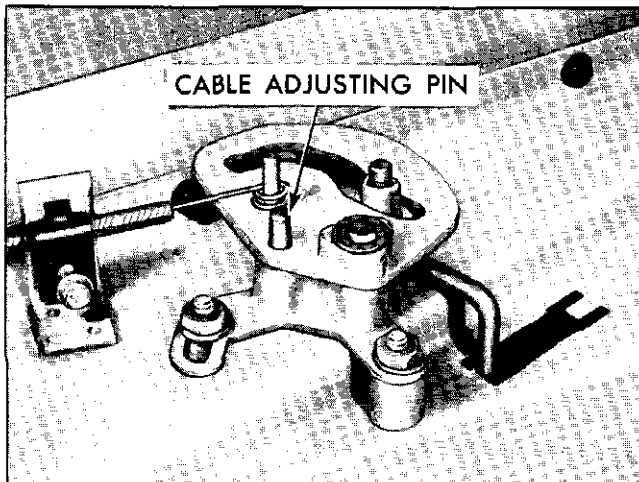

Fig. 2-18 Temperature Control Cable Adjusting Pin in Position
3. Insert dowel pin through heater cam into cam bracket, Fig. 2-18.
5. Insert a  $\frac{3}{16}$ " dowel pin (approximately 1" long) through the heater cam into the cam bracket as shown in Fig. 2-18.